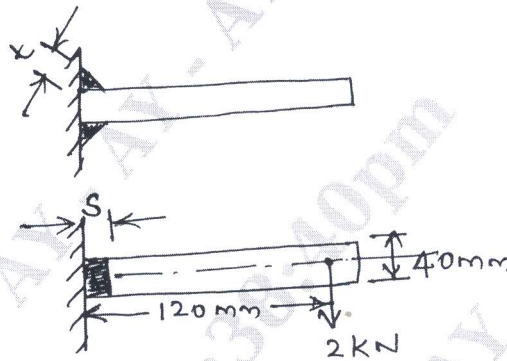

Fig.Q8(a)
- 8 a. A welded joint as shown in Fig.Q8(a) is subjected to an eccentric load of 2 kN. Find the size of weld, if the maximum shear stress in the weld is 25 MPa.